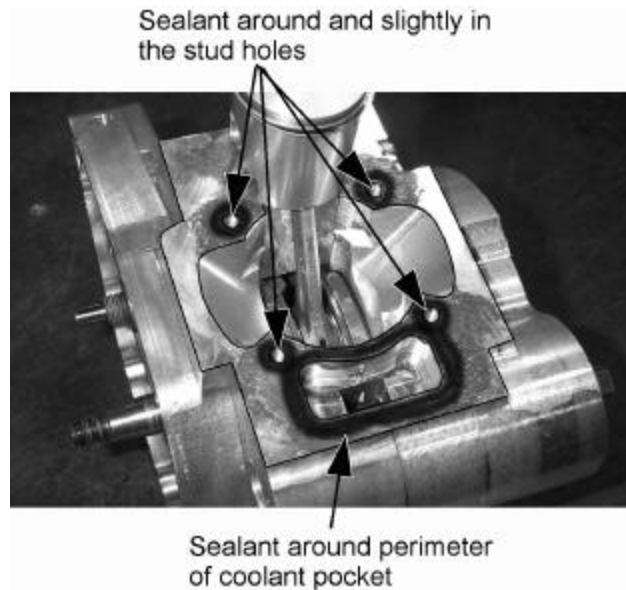

Figure 10
17. Apply gasket sealer (NAPA Aviation Form-A-Gasket #765-1210 or equal) to the cylinder deck areas around the coolant passage and cylinder studs as shown in figure 10.